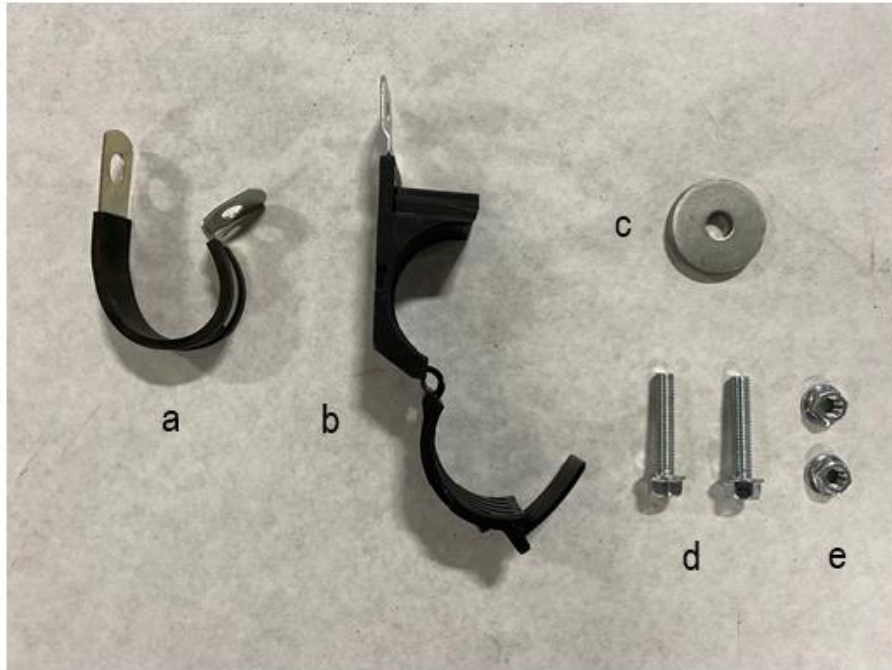

Figure 2
4. Familiarize yourself with the parts of the Harness Hardware Kit shown in Figure 2.